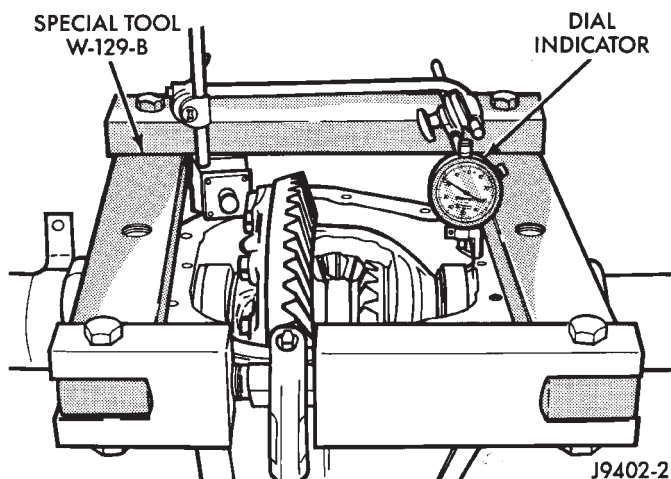
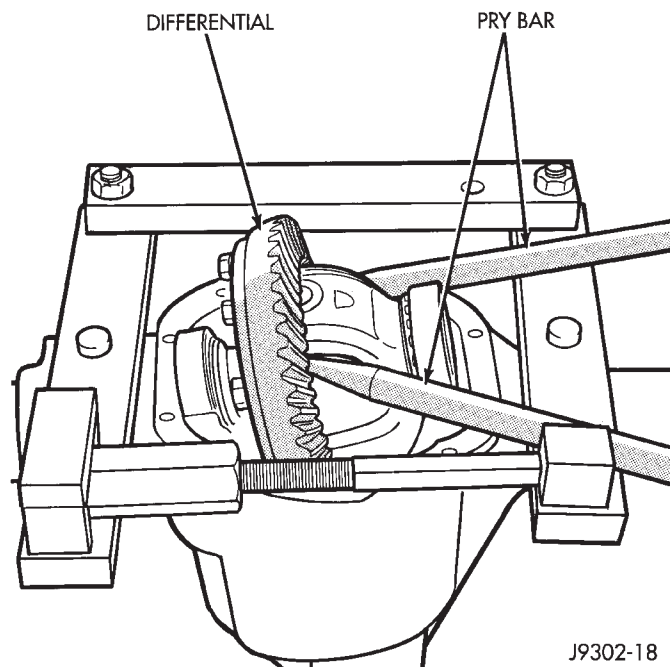

Fig. 14 Spread Differential Housing
Fig. 15 Differential Removal
(2) Remove the differential bearing caps.
(3) Position Spreader W-129-B with the tool dowel pins seated in the locating holes (Fig. 14). Install the holddown clamps and tighten the tool turnbuckle finger-tight.
(4) Install a pilot stud at the left side of the differential housing. Attach Dial Indicator to housing pilot stud. Load the indicator plunger against the opposite side of the housing (Fig. 14) and zero the indicator.
(5) Separate the housing enough to remove the case from the housing. Measure the distance with the dial indicator (Fig. 14).
(6) Remove the dial indicator.
(7) Pry the differential case loose from the housing. To prevent damage, pivot on housing with the end of the pry bar against spreader (Fig. 15).
(8) Remove the case from housing. Mark or tag bearing cups indicating which side they were removed. Remove spreader from housing.